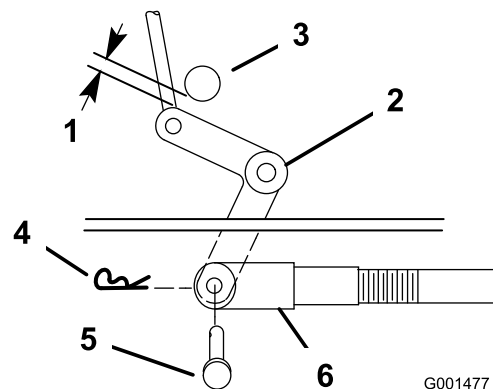
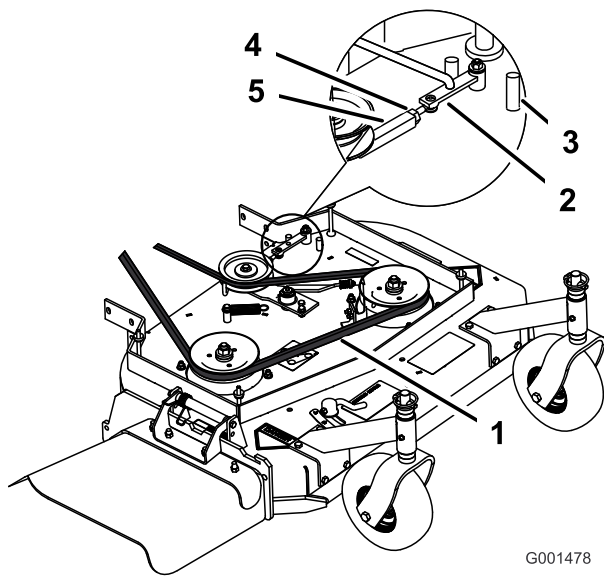
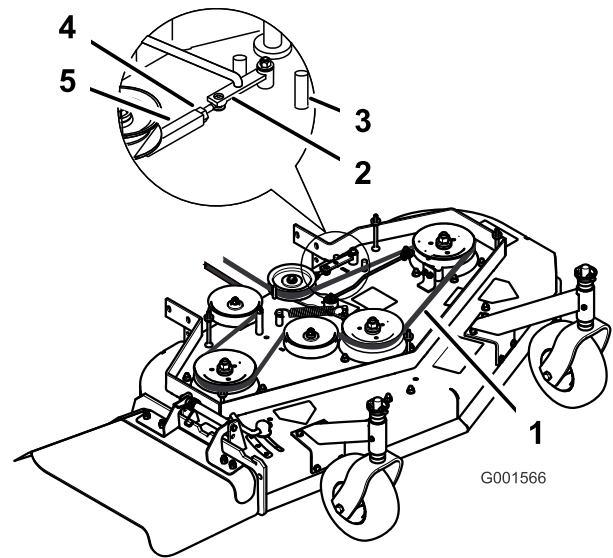

Figure 49
Figure 50
Figure 51
9. Check the clearance between the bell crank and the transmission output shaft (Figure 49).
11. Rotate the clevis clockwise on the rod to increase the clearance; rotate it counterclockwise to decrease it (Figure 49).
Note: If the assist arm does not contact the front stop on the mower deck (Figure 50 or Figure 51), adjust the clevis to bring the bell crank closer to the transmission output shaft (Figure 49).